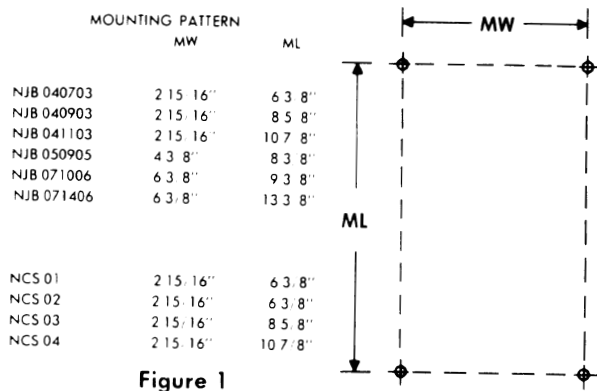

Figure 1
1. See Figure 1 for catalog number and mounting pattern dimensions for particular enclosure being installed.